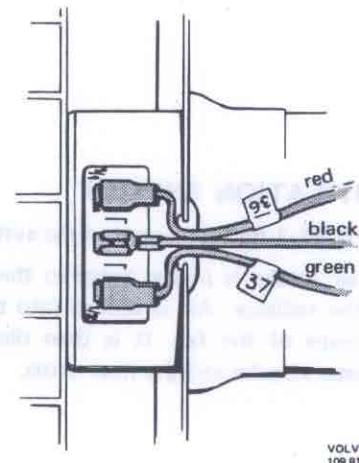
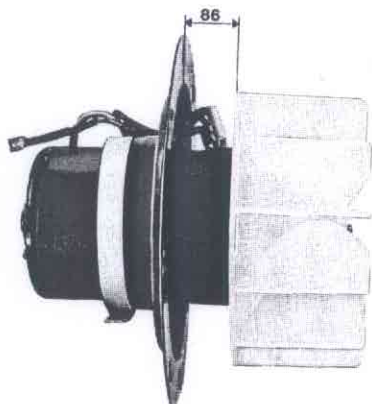

Fig. 85-4. Electrical connections
Fig. 85-5. Motor with cover
5. Fit the rubber ring and cover on the motor. Connect up the cable harness according to Fig. 85-4. Tighten the clamp when the adjustment has been made to the measurement 86 mm (3.5"), see Fig. 85-5.